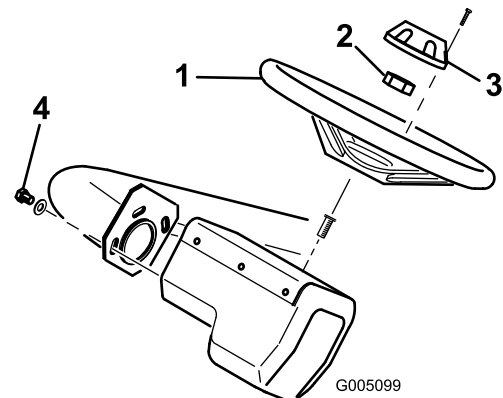

Figure 7
1. Slide the steering wheel onto the steering shaft and secure it with the jam nut (Figure 7). Torque it to 32 ft.-lb. (43 N-m).
2. Install the cap to the steering wheel with the screw (Figure 7).
Note: The steering wheel may be adjusted fore and aft for operator comfort by loosening the three mounting screws, pivoting the steering wheel to the desired operating position, and tightening the screws (Figure 7).